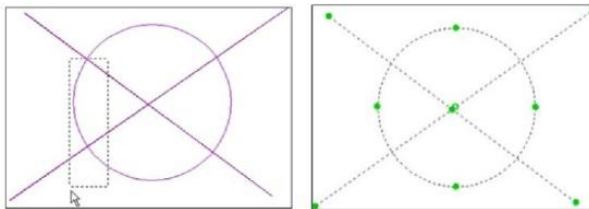

Fig. 65 – a method of object selection from the right to the left and its result
And when you are drawing the selection area from the left to the right only those objects will be selected, which are entirely contained in the rectangle (and not only cross by its line). This is more selective way than the previous one. Effects of both ways of selecting objects are presented below (Fig. 65 and 66):
**Settings** (Fig. 65). Another submenu will display, in which functions of changing the background colour are available – **White screen** and **Black screen**. Using the same menu it is also possible to display or hide all toolbars at once, show or hide line thickness and check the version of the environment.